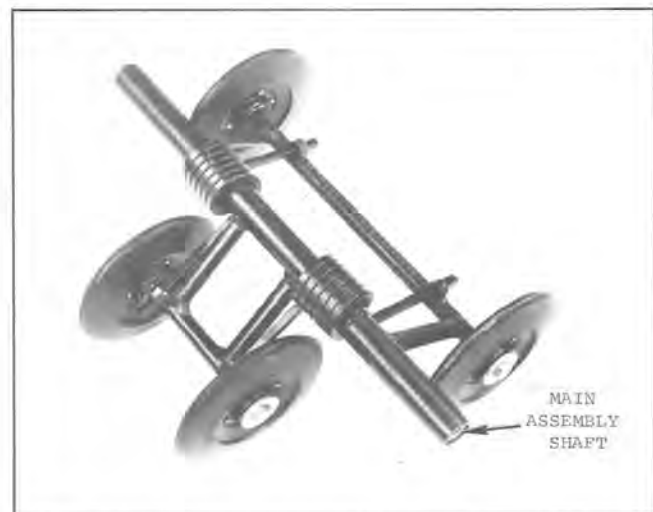

Fig. 81 — Bogie Wheel Assembly
- a. Block track clear of floor, then remove the bolts securing both ends of the main assembly shaft to the Ski Whiz. See Fig. 81.